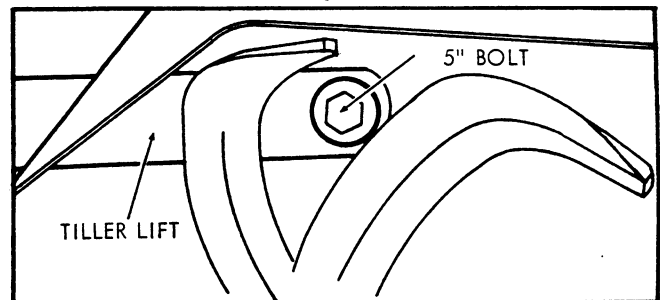

Figure 2
1. Install lower lift assembly to lower part of tiller housing using one spacer on each side of lift, then slide one 5" long bolt with four flat washers (one on each side of spacer) through mating holes and secure in place with one locknut (See Fig. 2). Torque nut to 70 - 80 ft. lbs. (9.67 - 11.06 kg/m).